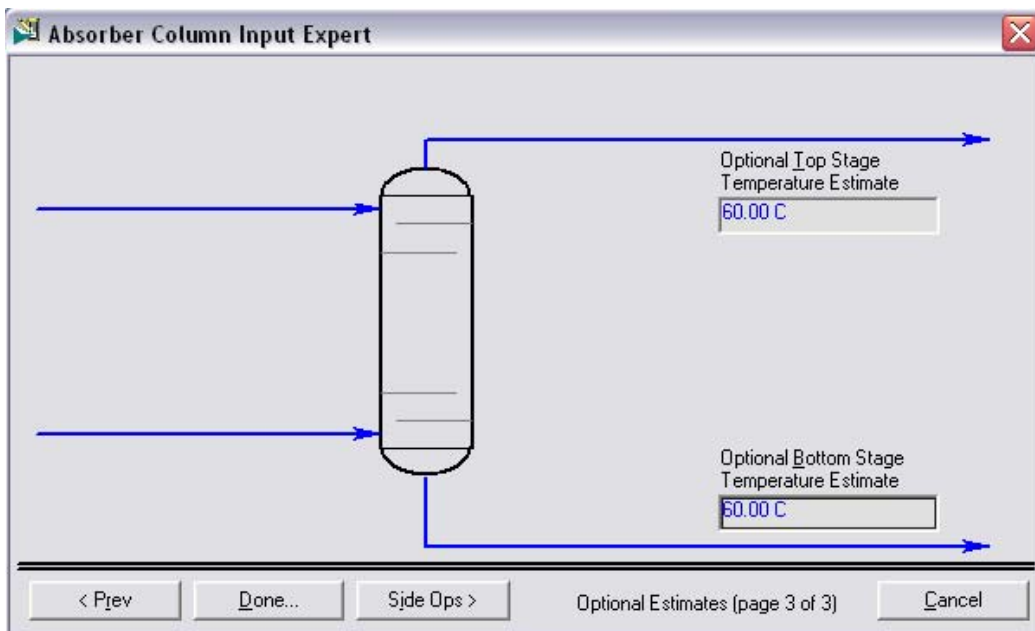

Figure 11-3
4. Click **Next**, and then enter the following information as shown in Figure 11-3. Then, click the **Done...** button.